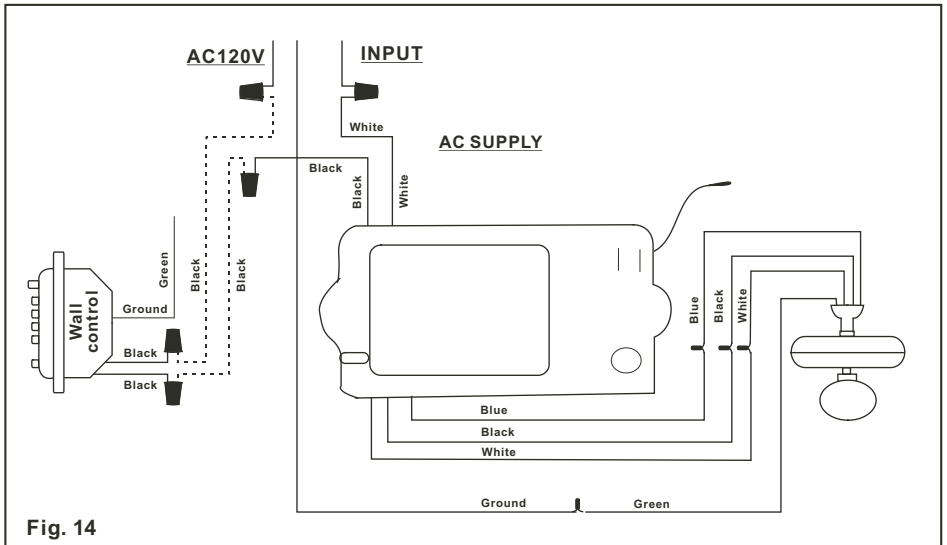

Fig. 14
**Step 2.** Make the electrical connections as shown in Fig.14. If your outlet box has a ground wire (Green or Bare Copper) connect the Transmitter's ground wire directly to one of the screws from the outlet box . Secure all wire connections with the plastic wire nuts provided.